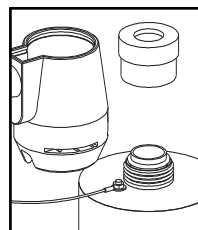

FIGURE 3C
- f) Re-assemble the quartz sleeve with spring in the UV chamber allowing the sleeve to protrude an equal distance from both ends of the UV chamber (Figure 3C).